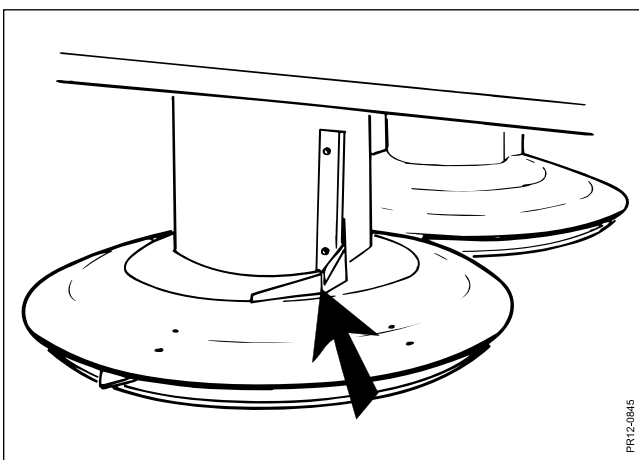

Fig. 5-8
**Fig. 5-8** Check that carriers on the drums are in place and intact. The drums can be deformed by stones and the like. If this results in unbalance, they must be replaced.